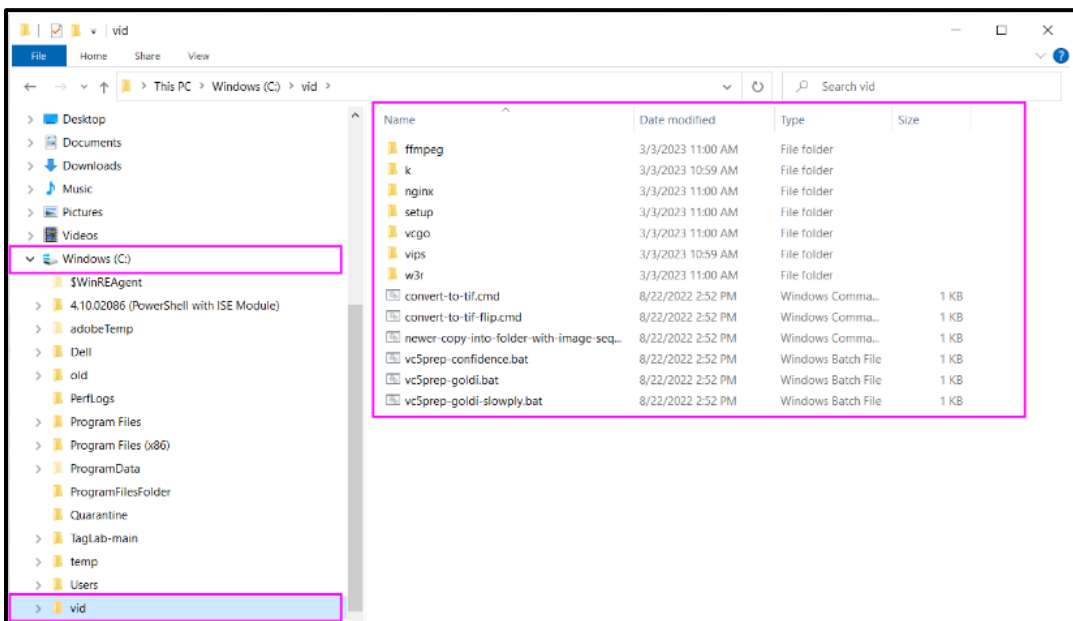

Figure 44. Contents within the Vid program folder.
4. When finished, navigate to the computer's local C drive, and double check that there is a new folder named `vid` (Figure 44). If the Vid folder is not visible, it might be necessary to refresh Windows Explorer or run the `deploy-to-c.cmd` a second time. If users do not have write access to the drive, they should contact the owner of the administrator profile.